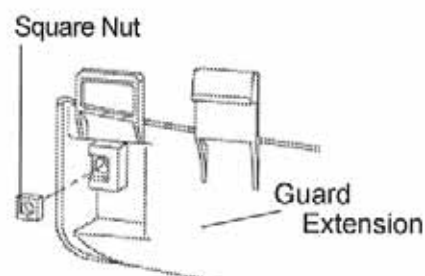
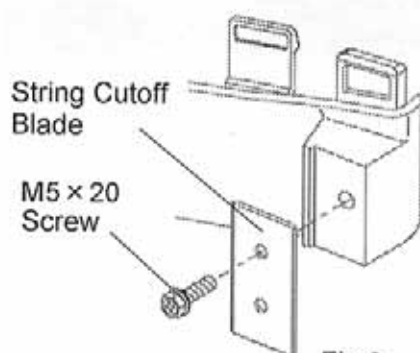

Fig.2
Fig.3
1. Insert the square nut into guard extension as shown on Fig. 2.
2. Attach the String Cutoff Blade to guard extension using M5 x 20 Screw, locking with square nut (on Fig.2) as shown on Fig.3.